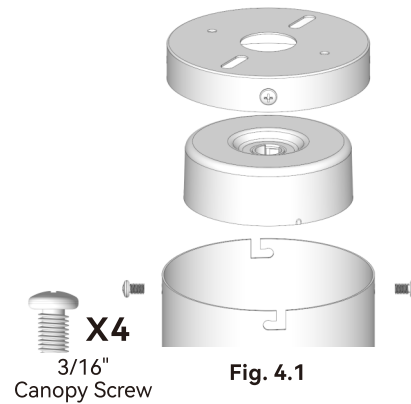

Fig. 3.2
3.3 Connect the wire plug to the light kit's terminal block as demonstrated in Fig.3.2.